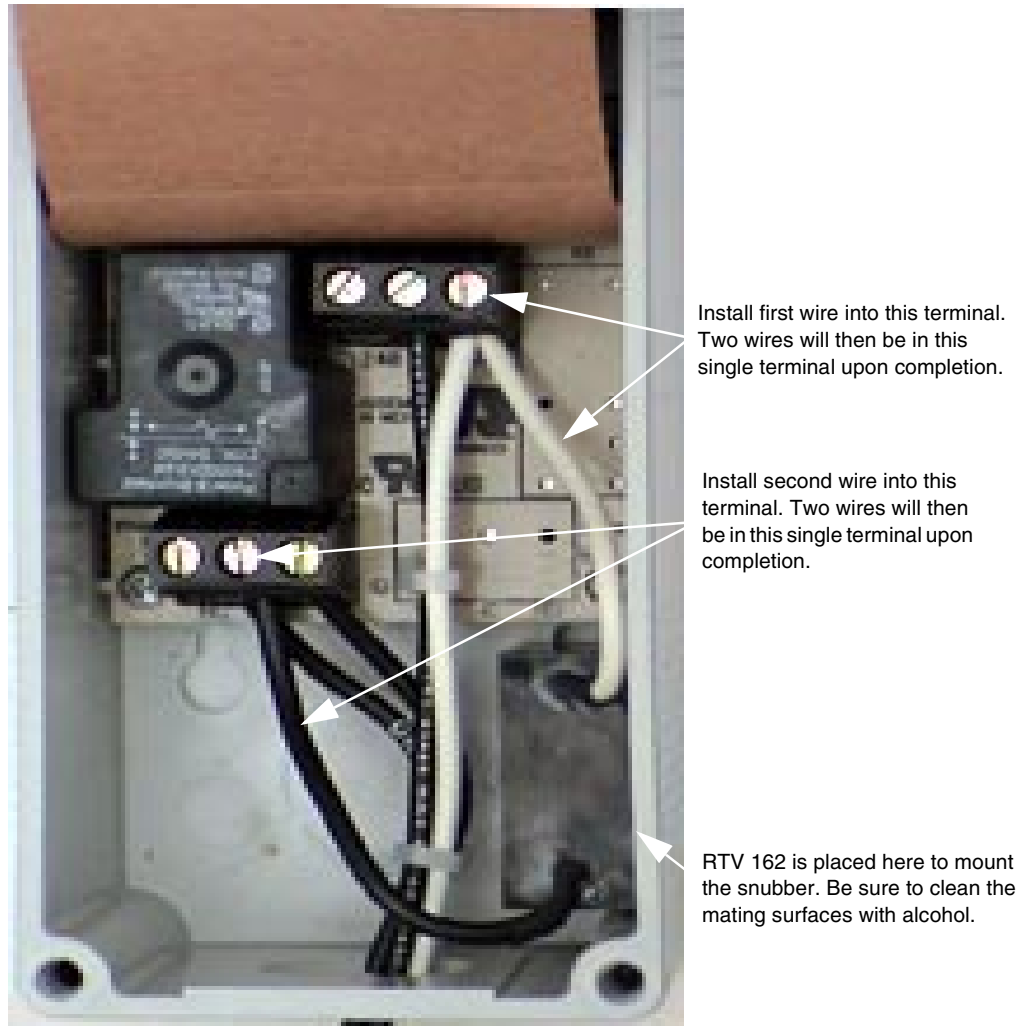

Figure 1 Gantry Thermostat Modification
- 6.) Install the supplied snubber device as shown in Figure 1.
- 10.) Connect the wires as shown in Figure 1.